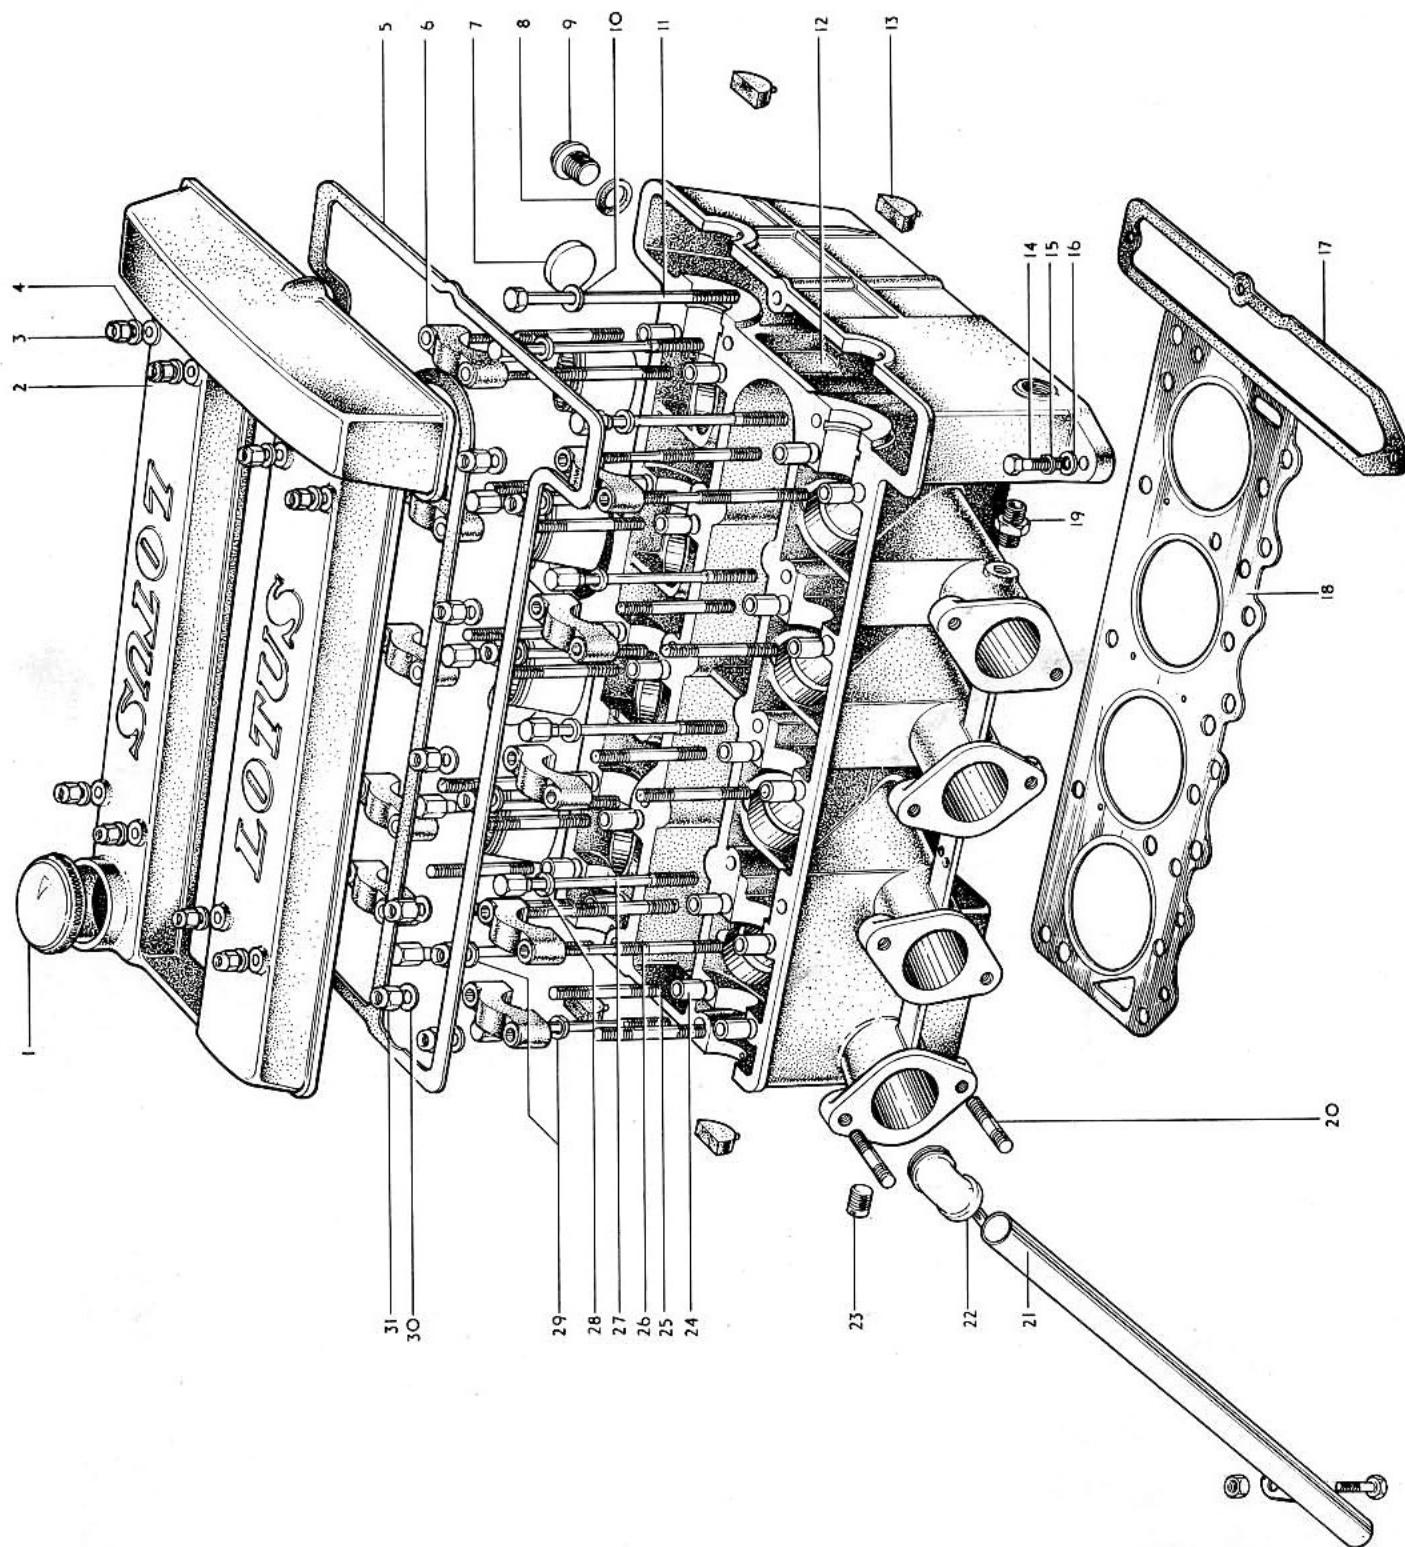
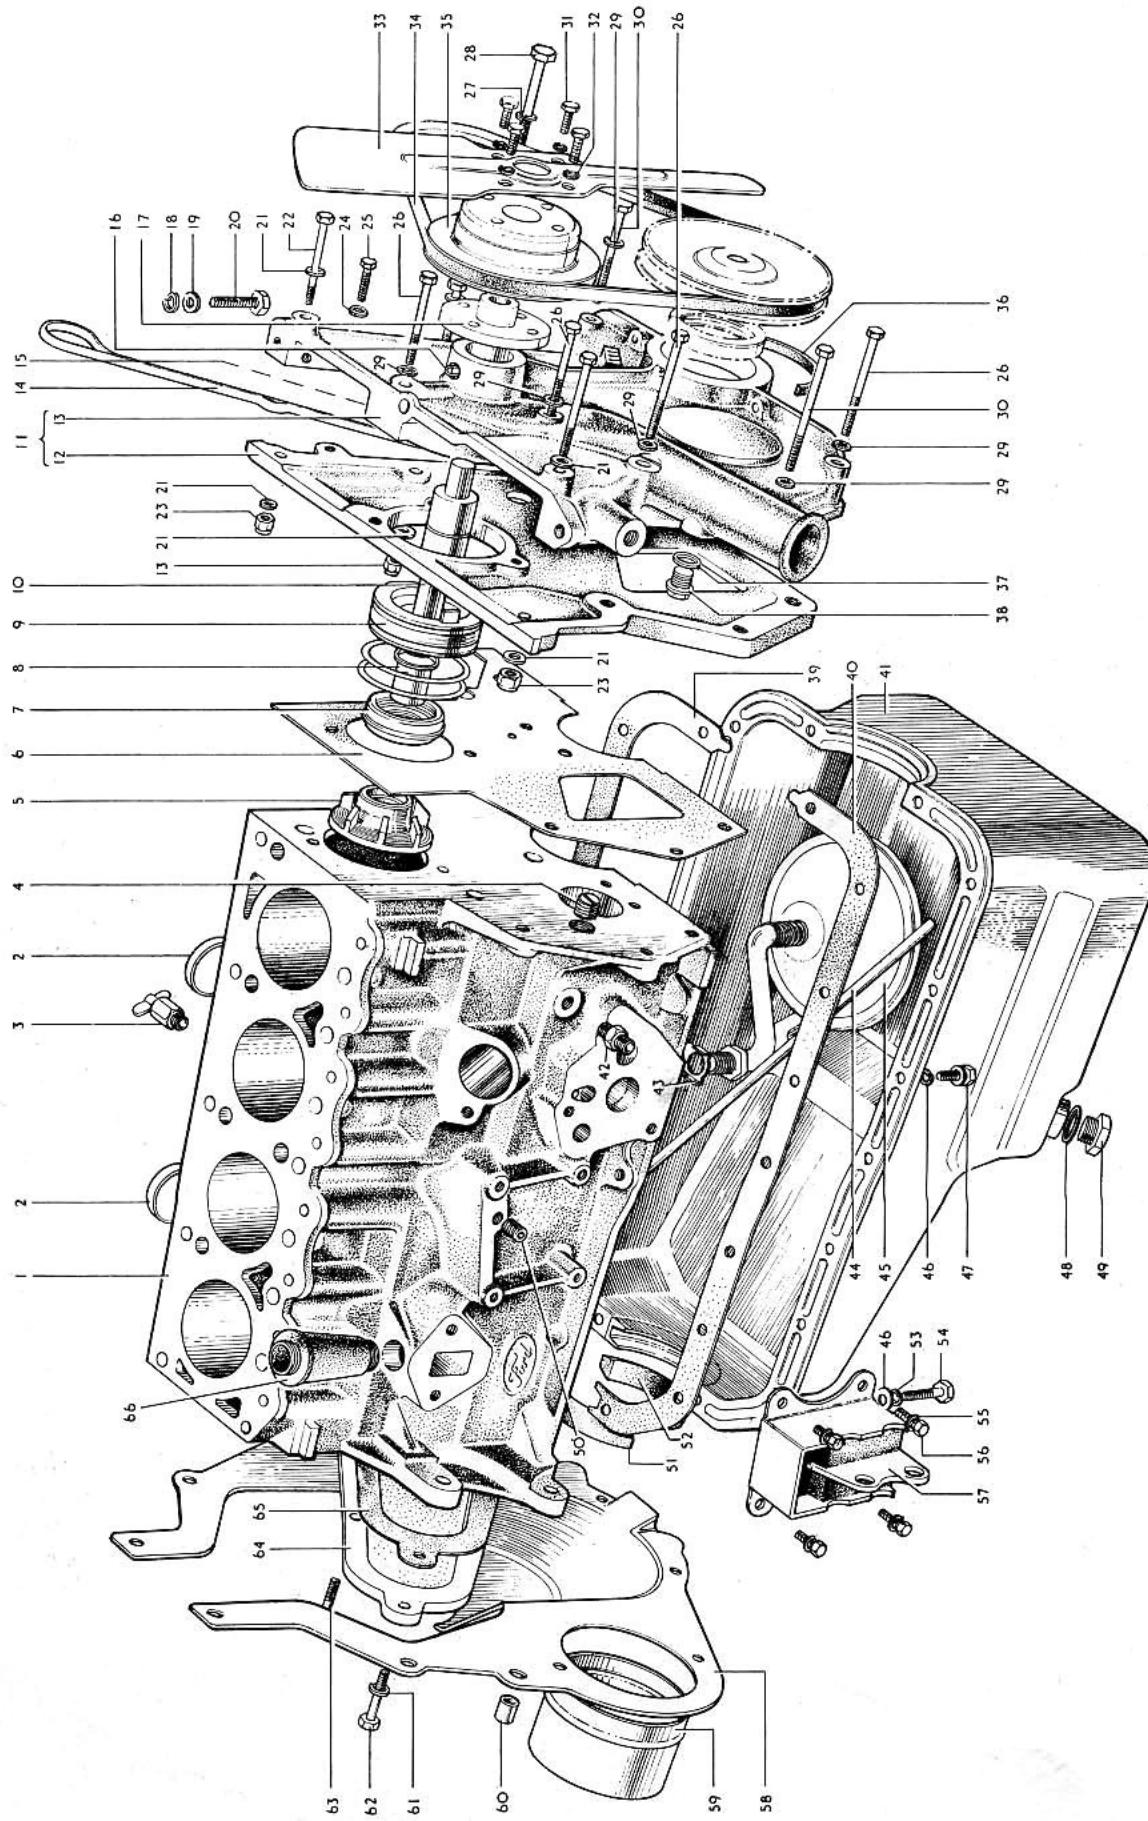

Fig. 5—CYLINDER HEAD COMPONENTS
Fig. 8—CYLINDER BLOCK AND WATER PUMP COMPONENTS
Remove the cylinder head to timing case clamp bolt (item 11 fig. 5) and the two smaller $\frac{5}{16}$ in. clamping bolts (item 14 fig. 5) and (item 20 fig. 8).